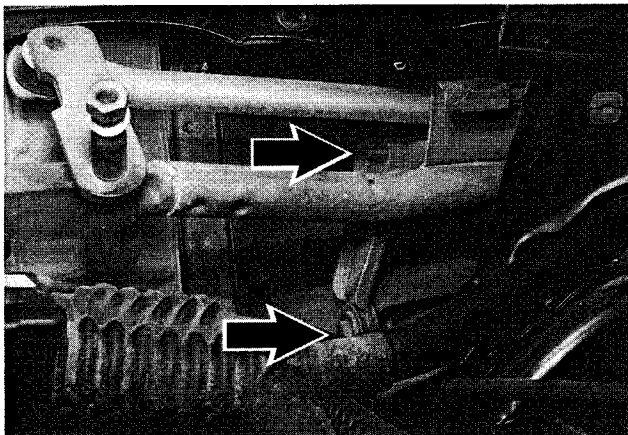

Fig. 10. Wiper assembly support bolts (arrows).
10. Remove wiper assembly support. See Fig. 10.
11. Remove wiper assembly support. Refer to Fig. 10.